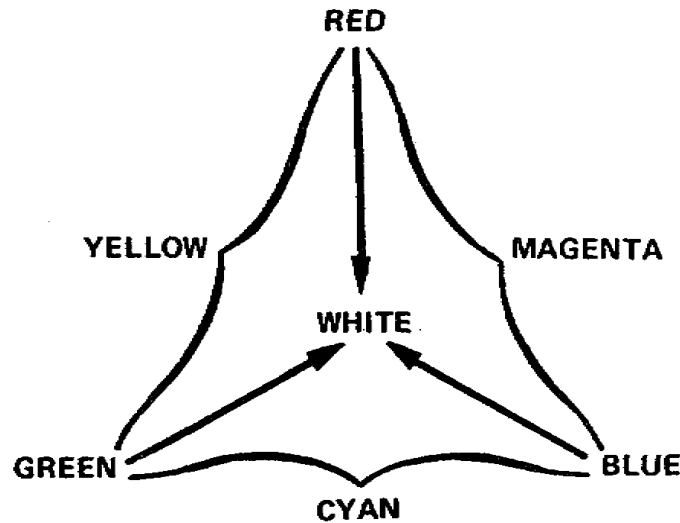

Figure 1-1. Combination of primary colors
c. Equal amounts of all three primary colors produce white, so white light is said to contain all colors. Snow looks red when seen through a red filter because only the red portion of the white light comes through the filter. The result of combining the primary colors in equal amounts is shown in Figure 1-1.